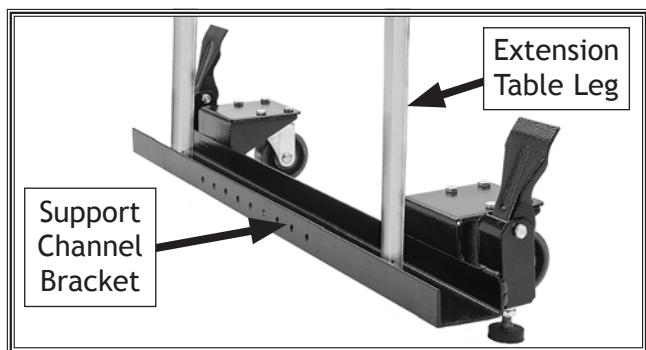

Figure 8. Extension table legs placed in support channel bracket.
8. Install extension table onto machine. Place legs into channel bracket and center legs along length of channel (see Figure 8).